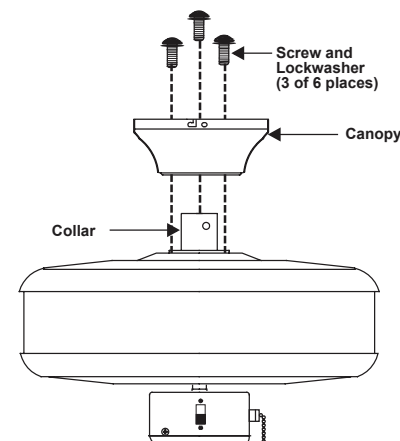

Figure 11
4. Remove three of the six screws and lock washers (every other one) from the collar of top motor (Fig. 11)
5. Place the ceiling canopy over the collar at the top of the motor. Align the mounting holes with the holes in the motor and fasten using the screws and lock washers provided (Fig. 11).
6. Tighten the mounting screws securely. (Fig. 11)